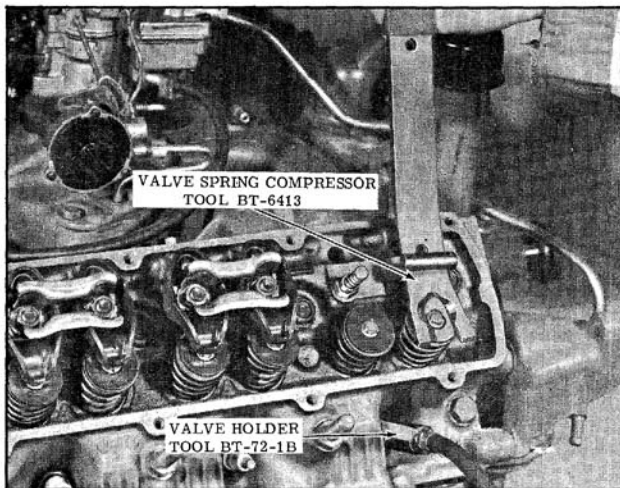

Fig. 3-71 Removing Valve Spring
3. Install Tool BT-6413, (Fig. 3-71) compress the valve spring until valve keys are accessible, then remove keys, spring retainer cups, and springs.